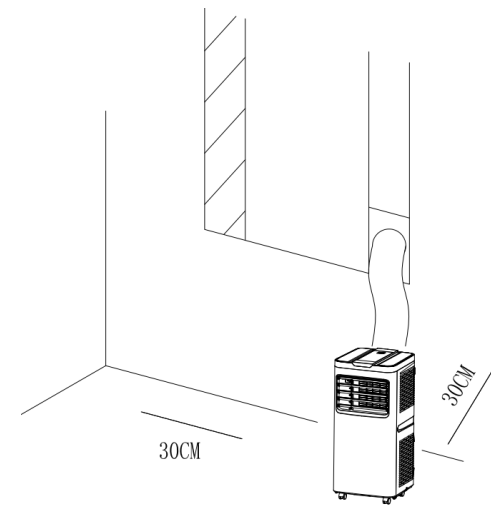

Fig 6
- A removal air-conditioner shall be installed in the flat and empty place all around. Don't block the air outlet, and the required distance around should be at least 30cm. (See Fig.6)